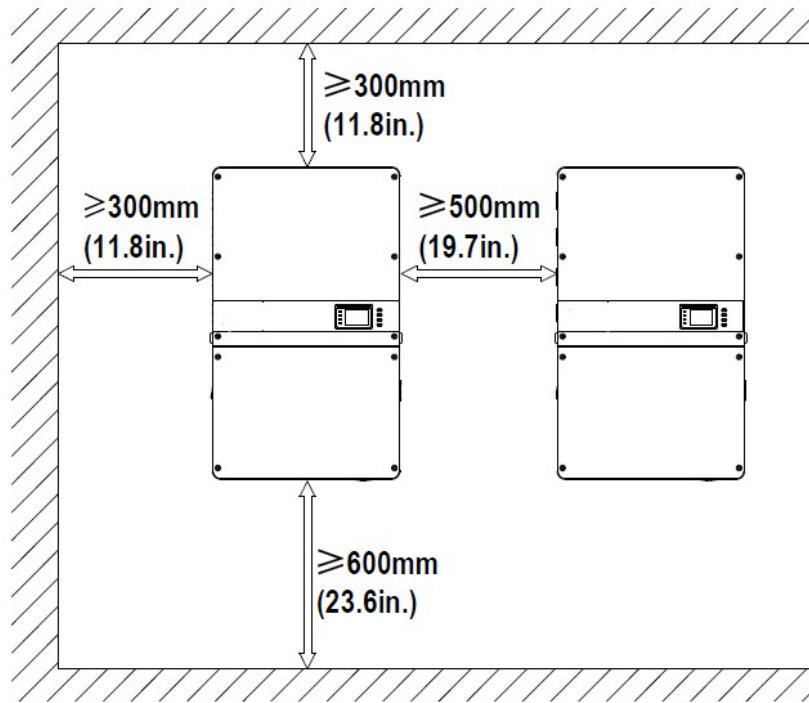

Figure 4-3 Inverter Minimum Spacing and Clearance Area
- Sufficient space according to Figure 4-3 must be provided to allow the inverter cooling system to operate effectively.
It is important to allow ample spacing for ventilation, wire management, and service. The minimum spacing requirements are shown in Figure 4-3. Always keep the clearance area free from debris, plants, and other obstructions.